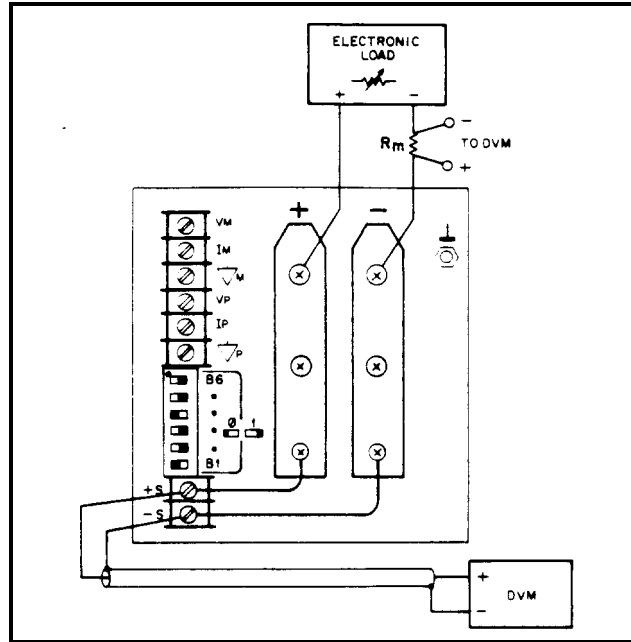

Figure 2-5. Basic Test Setup
- Connect the test equipment as shown in Figure 2-5. Operate the load in constant resistance mode (Amps/Volt) and set resistance to maximum.
- a. Connect the test equipment as shown in Figure 2-5. Operate the load in constant resistance mode (Amps/Volt) and set resistance to maximum.
Use the equipment setup of Figure 2-5 to display output voltage transients while switching the load between 10% with the output set at:
- a. Connect the test equipment as shown in Figure 2-5. Operate the load in constant-current mode and set for minimum current.